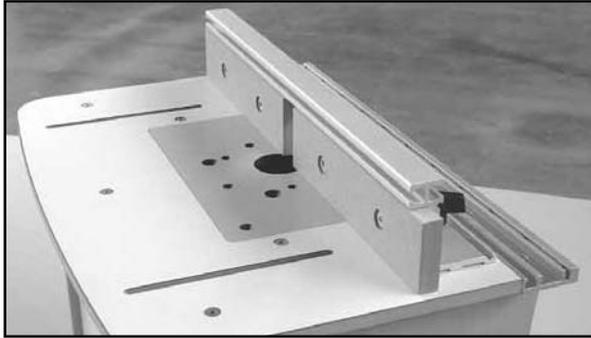

Fig. 15
16. Attach fence (see page 4 for exploded view). For more workpiece support, the fence can be reversed and positioned on the "front" of router table as shown in **Fig. 15**. Install the bolts from inside the cabinet.